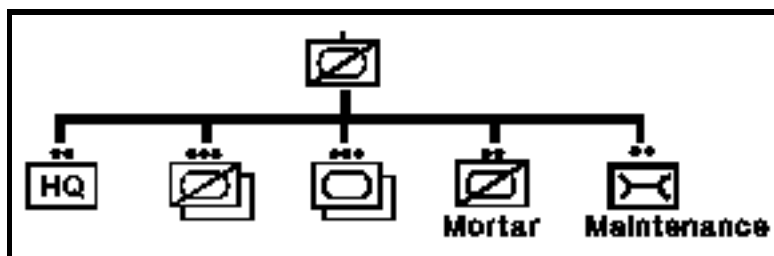

Figure 1-4. Armored cavalry troop organization.
The armored cavalry troop consists of a headquarters, two tank platoons, two scout platoons, and mortar and maintenance sections. The headquarters section is equipped with one main battle tank, one command post (CP) carrier, one APC, one cargo truck, and two utility trucks. The scout platoons consist of six M3 cavalry fighting vehicles (CFV). Equipment in the mortar and maintenance sections includes two 107-mm mortars mounted in self-propelled carriers, one APC, one heavy recovery vehicle, **ers**. (See Figure 1-4.)